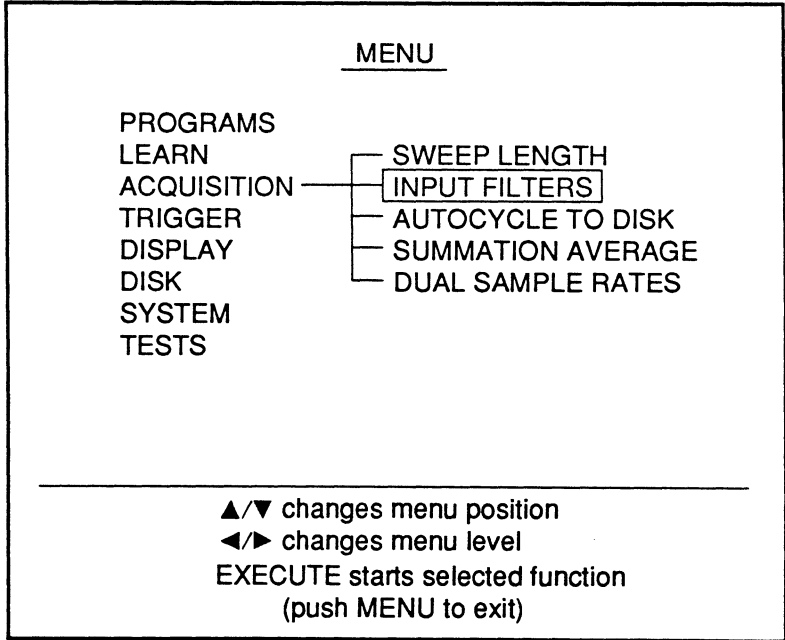

Figure 2 - The Right Cursor button was pressed and then the Down Cursor button was pressed to select INPUT FILTERS.
Figure 2: The Right Cursor button was pressed to move the cursor to the Functions list and then the Down Cursor button was pressed until the cursor moved over INPUT FILTERS.
1. Execute FFT SNAPSHOT. A screen appears (Figure 2).